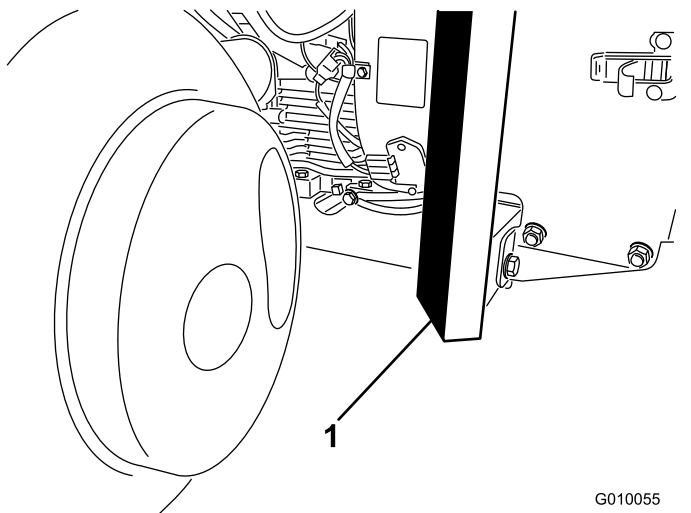

Figure 36
3. Position the jack securely under the front of the frame (Figure 36).